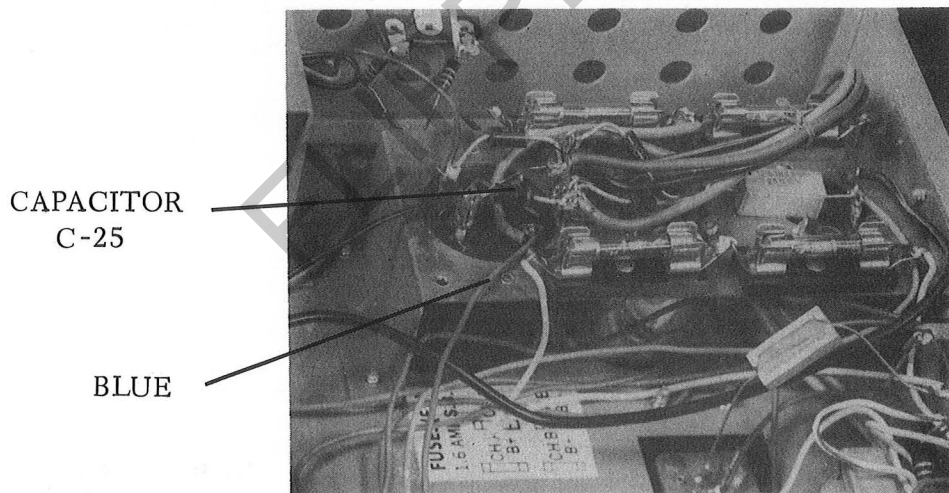

Figure 3.
- d. Connect and solder BLUE wire to CAPACITOR C-25 as shown in Figure 3.